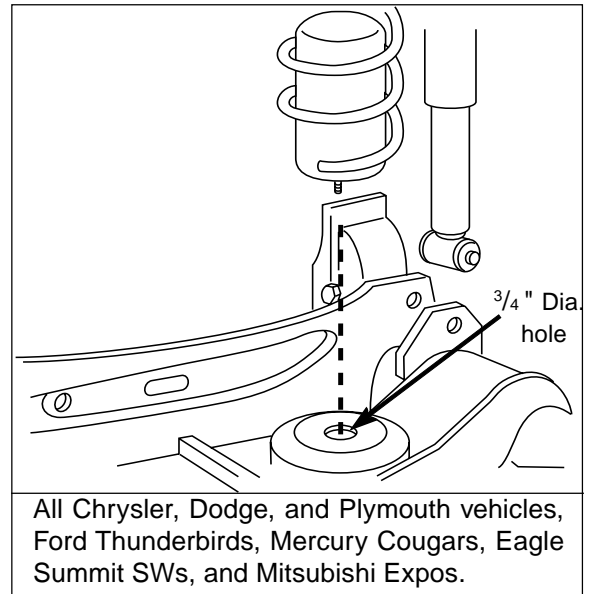

Figure 1
Multiple Applications – See special notes and Figures 1, 2 and 3 for your particular vehicle.
- (3) Stick the template on the underside of the lower spring seat with a dab of grease.
- (4) Centerpunch and drill  $\frac{3}{4}$ " diameter hole. Remove all burrs and sharp edges (Figure 1).
- (6) Insert air cylinder into coil spring with stem at bottom. Push the cylinder up within the coil by hand or with a blunt instrument such as a spoon-type tire iron.
- (7) When the cylinder is completely within the coil, remove the cap and allow the cylinder to assume its "as molded" shape. For Thunderbirds or Cougars skip to step (9), otherwise continue on to step (8)
- (8) For Chrysler, Dodge, or Plymouth: With the air cylinder stem down (Figure 1) install coil springs into spring seats and rotate to proper location. Attach lower shock absorber attaching bolts. Torque to 25 ft-lbs.
- (9) Continue with air line installation on pages 2-4.
- (1) Increase the diameter of the hole in the lower spring seat to  $\frac{3}{4}$ " diameter. Remove all burrs and sharp edges.
- (2) Insert air cylinder into coil spring with barbed stem towards the bottom. Push the cylinder up within the coil by hand or with a blunt instrument such as a spoon-type tire iron (Figure 1).
- (3) When the cylinder is completely within the coil, remove the cap and allow the cylinder to assume its "as molded" shape.
- (4) Continue with air line installation on pages 2-4.